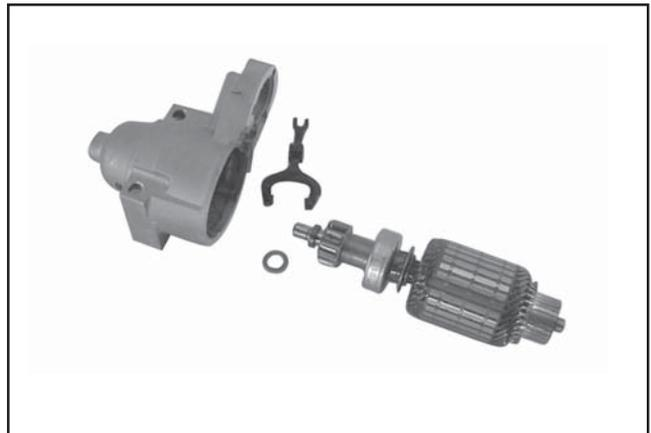

Figure 8-23. Armature and Lever Removed.
8. Take out the drive lever and pull the armature out of the drive end cap. See Figure 8-23.
9. Remove the thrust washer from the armature shaft. See Figure 8-23.